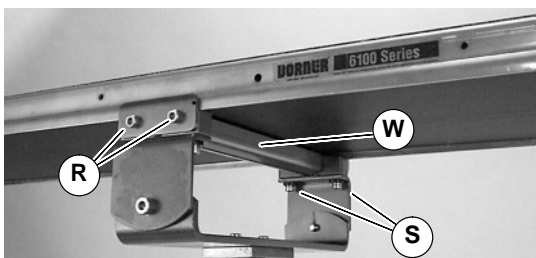

Figure 18
4. Install assembly (W of Figure 18) on bottom of conveyor. Align assembly perpendicular to conveyor frame. Tighten bracket screws (R) to 9 Nm.